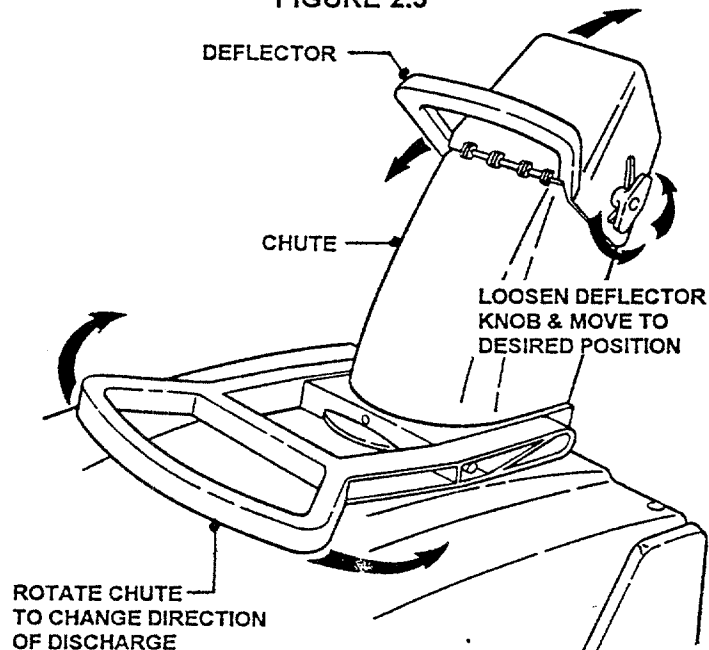

FIGURE 2.6
3. Rotate discharge chute in desired direction. See Figure 2.6.
3. Rotate discharge chute in desired direction. Refer to Figure 2.6.